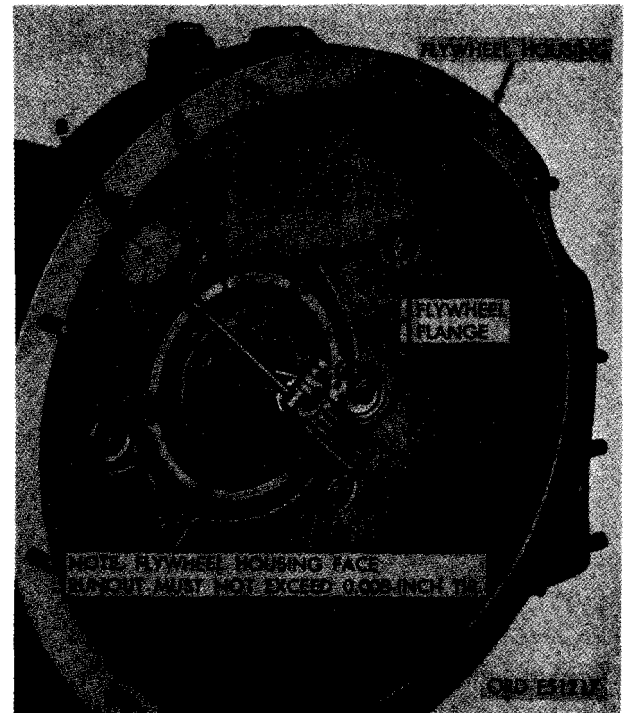

FIGURE 475. CHECKING FLYWHEEL HOUSING FACE RUNOUT USING DIAL INDICATOR.
Figure 475. (A) Mount dial indicator on crankshaft flywheel "flange" so indicator point rests on the flywheel housing mounting face as shown. (B) Set indicator on zero reading ("0"). (C) Rotate crankshaft 360 degrees pushing toward front of engine and check runout.